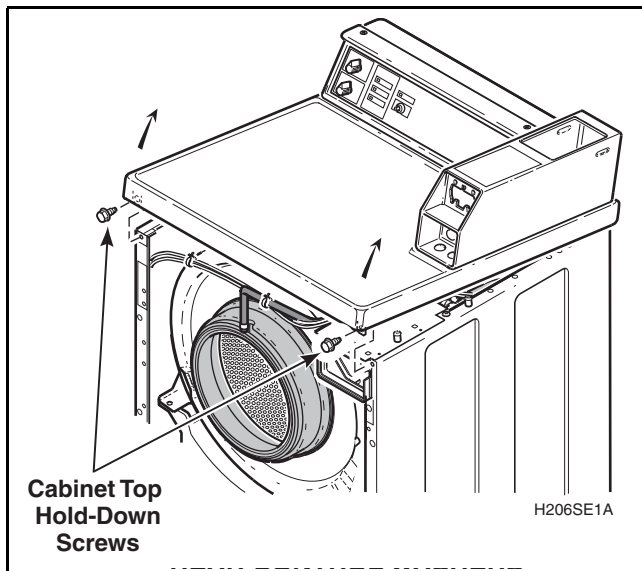

Figure 27
- Remove two screws holding front of cabinet top to front flange of side panels. Refer to *Figure 27*.